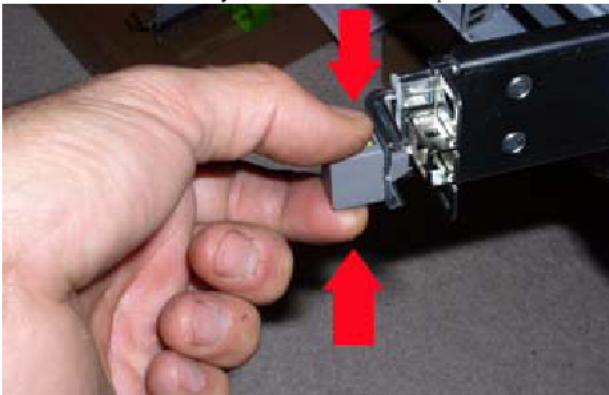

FIGURE 7 Squeezing the Green Tabs on the Slide Rail Lock
3. Squeeze and hold the green tabs at the top and bottom of the slide rail lock (FIGURE 7).